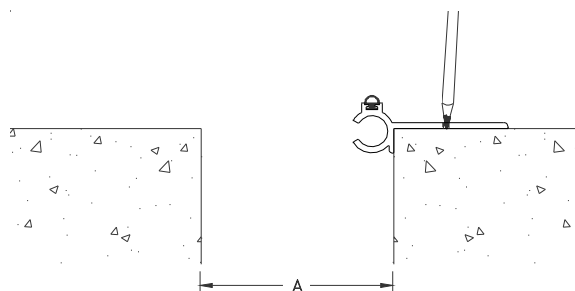

Figure 5
**STEP 6.** For concrete or masonry wall constructions, select a section of the base member and place it in the installed position. Ensure that the base member is level and properly aligned. Using the base member as a template, mark the anchor locations on the wall (see Figure 5). Remove the base member from its installed position, and drill the anchor holes into the wall at the marked locations. Drill the anchor holes 1/4" deeper than the length of the anchors. Clean away all dust and debris from the blockout. Repeat this procedure for the opposite base member.